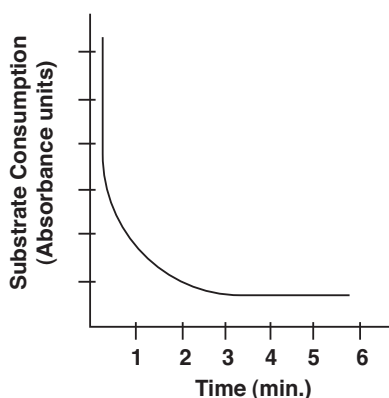

Figure 1
The appearance of product (P) or the disappearance of substrate (S) can be measured as a function of time during a reaction. One can measure the amount of product formed or the decrease in substrate at regular intervals (in this experiment at 30-sec intervals). This quantity can be plotted as a graph. Typical results are shown in Figure 1 which demonstrate the **rate of an enzymatic reaction**.
In the above equation, $[S]_1$ is the molar concentration of substrate at some initial time T_1 , and $[S]_2$ is the substrate concentration at a later time T_2 . Note that the concentration of substrate decreases with time and the concentration of product increases with time. Graphically, this can be represented with the substrate concentration plotted on the y-axis and time on the x-axis. The decrease in the substrate concentration with time will generate a curve. The rate of decrease is fastest at the earliest time points of the reaction since the substrate concentration is comparatively higher. The rate of decrease diminishes at later times because the substrate concentration is lower and the reaction is slower (**Figure 1**). Within short intervals, there will be sections of the curve that are approximately linear and the rate of the reaction can be measured. At some substrate concentration, all the enzyme molecules are bound to substrate and are involved in some stage of the catalytic reaction. Under these conditions the enzyme is saturated with substrate and no increase in reaction velocity.